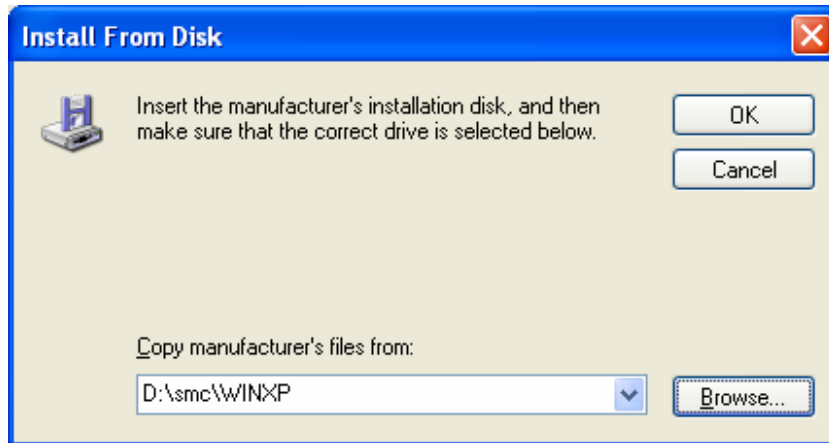

Figure 2-8
Step 7: Locate the appointed driver as shown in Figure 2-8, click **Open**.